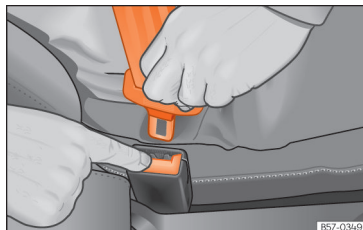

Fig. 22 Release the seat belt's latch plate.
- Press the red button on the buckle » » » **Fig. 22**. The latch plate is released from the buckle.